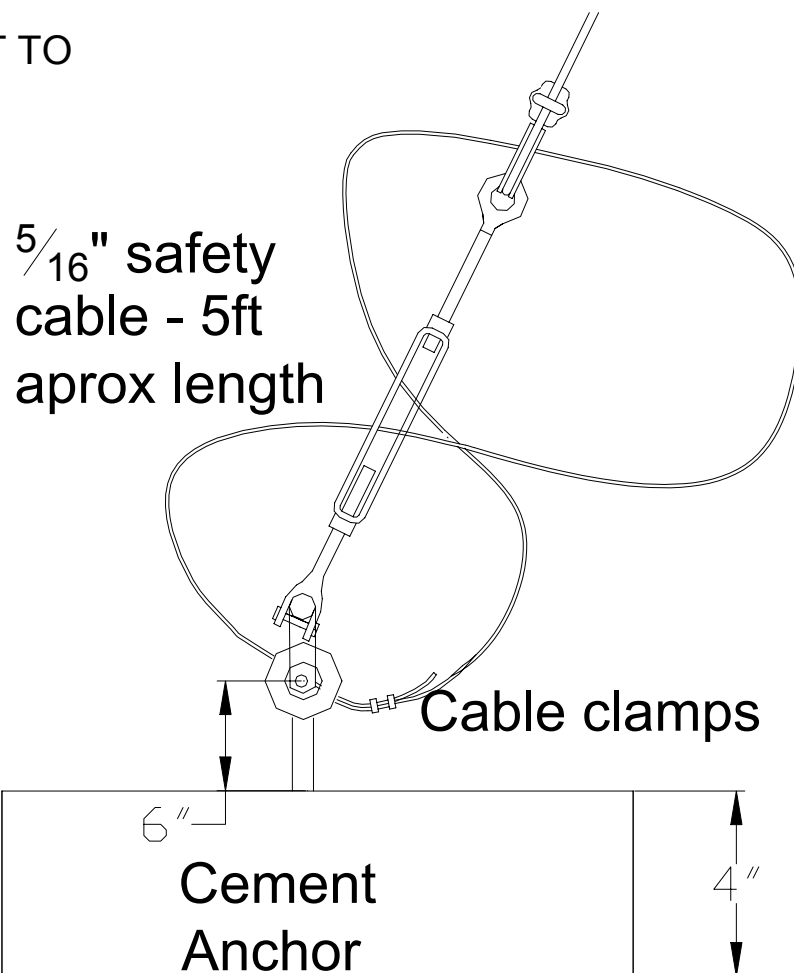
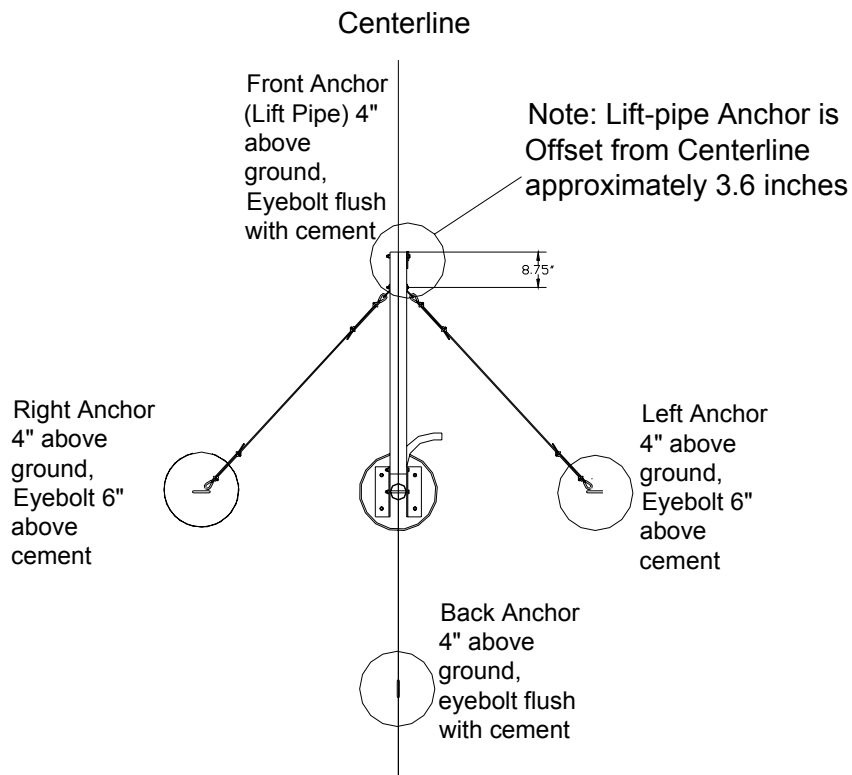
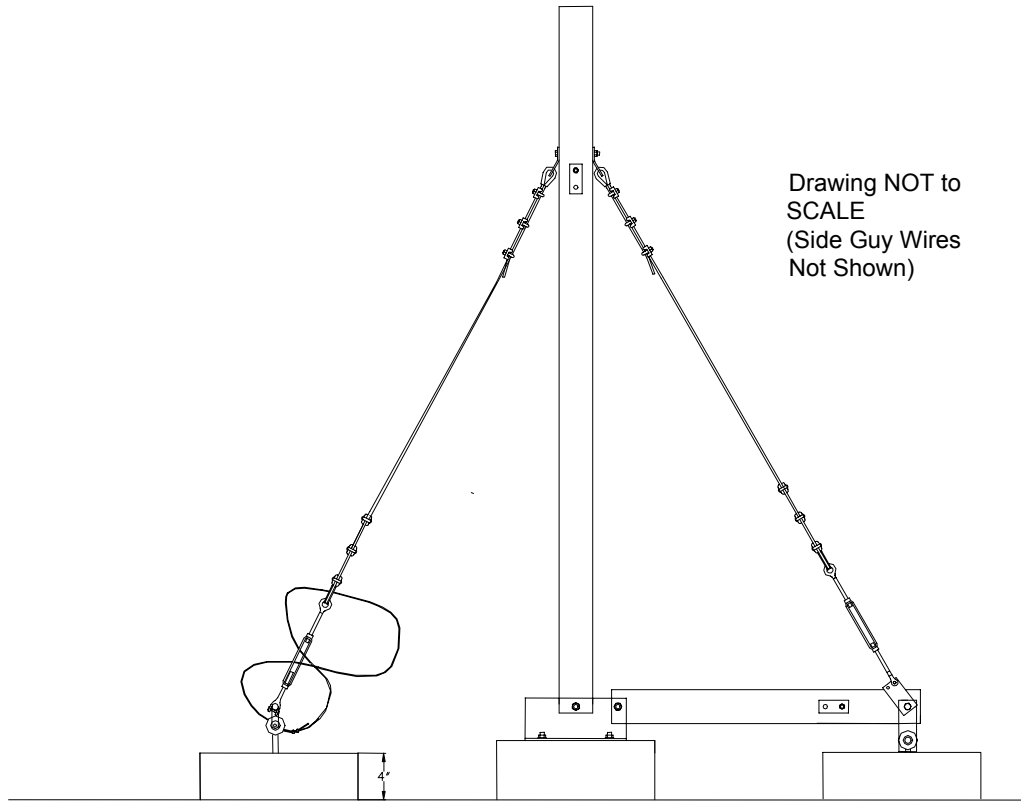

Figure 4.3: Above Ground Concrete Anchor View (back and side anchors only)
Figure 7: Birdseye View of Anchors and Lift-Pipe (Ginpole)
Figure 8: Tower Assembly Side View
This tower kit must only be erected on a calm day (no wind). The tower base and anchors should be laid out as described in Figure 2 and Figure 7. **The tower will be assembled laying on the ground and then tilted up into position.**
Carefully study *Figure 2 and Figure 7* to help you determine how much space you will need to raise your tower, which is pulled up from the lift anchor. Be especially aware that the concrete anchors are 4 inches above ground level. The lift anchor is slightly off-center (3-4 inches) in order to be assembled with the metal links. Keep both things in mind while you dig and build your concrete anchors.
Be sure the anchor points and base position are in a line when sighted from anchor to anchor. It is very important that the center of the eyebolts on the side anchors are in line with the center pivot bolthole on the base angles. This means that the center of the eyebolts on the side anchors should be 6 inches above the top of the 4-inch concrete anchors for a total distance of 10 inches above the ground (see Figure 4.3). This must correspond with a base anchor that is 6 inches above ground level because the hole in the angles is 4 inches above the concrete for a total distance of 10 inches above ground (see Figure 2). This will ensure that the forces on the guy wires are balanced properly, make final guy wire adjustments simpler and will help a great deal during the actual raising of the tower. The side anchors and tower base should also be at the same height. If either of these requirements are not met, **the guy wires will either tighten excessively or become excessively slack as the tower is raised. If the guy wires tighten excessively the tower may buckle and collapse, causing possible injury or even death and at the very least, damage to both the tower and the turbine. Carefully read the section on raising the tower for further instructions on making the proper adjustments in these situations.**
The base anchor should be 6 inches above ground level. The four guy wire anchors should be 4 inches above ground level (see Figure 2). The two side anchors should have the center of the 3/4" x 12" eyebolt located **6 inches** above the top of the concrete anchor (see Figure 4.3). The backside anchor and the lift-pipe anchor should have the center of the 3/4" x 8" eyebolts **1.5 inches** above the concrete anchor (see Figure 4.2). The lift anchor has hardware and plates that connect it to the lift-pipe anchor (see Figure 4.1 and 4.2), and if you do not level the anchors appropriately you will have problems installing the kit. Also, the anchor for the gin pole is offset to the side between 3 and 4 inches to accommodate the linkage hardware (see Figure 7). See Figure 4.2 and Figure 8 for details.
Note: You should have 20 feet of cable left over after cutting the guy cables. This last piece of cable should be cut into four 5' sections. These cable lengths will be used as backup security loops after the tower is erected and the guy cables are properly tensioned (see Figure 4.3).
- Attach the side anchor guy wires to the gin pole as shown in Figure 7.
Figures 7, 8, 9.1 and 9.2 show details on how the guy wires should be assembled. Make sure you measure the length of the guy wires correctly, otherwise they will not be the proper length and you will spend much time resetting them. Leave about 6 inches of slack in the wires to allow for any misalignment or unnoted elevation differences (the wires will be adjusted more precisely later).